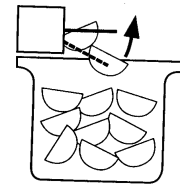

FIGURE 2
- THE ICE MAKER WILL AUTOMATICALLY STOP PRODUCING ICE WHEN THE METAL ARM IS LIFTED TO AN UPRIGHT POSITION AS THE ICE BASKET FILLS (SEE FIGURE 2)